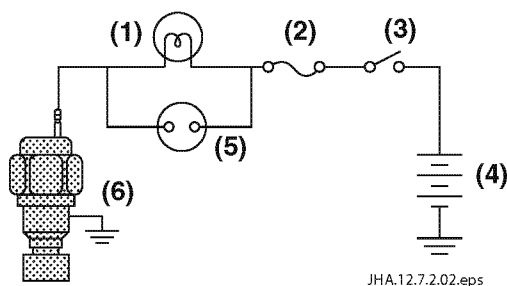

Figure 11-13
A coolant temperature indicator (**Figure 11-13, (1)**) and an audible alarm buzzer (**Figure 11-13, (5)**) are mounted in the instrument panel.